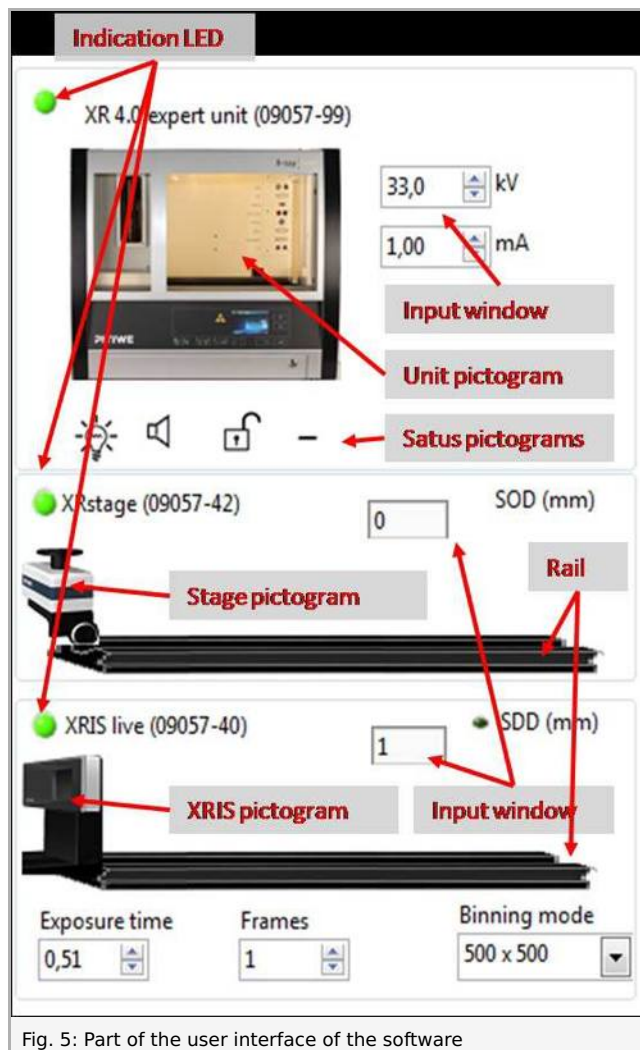

Fig. 5: Part of the user interface of the software
- Start the “measureCT” program. A virtual X-ray unit, rotation stage and Detector will be displayed on the screen. The green indication LED on the left of each component indicates that its presence has been detected (Fig. 5).
- You can change the High Voltage and current of the X-ray tube in the corresponding input windows or manually on the unit. (Fig. 5).
- When clicking on the unit pictogram additional information concerning the unit can be retrieved (Fig. 5).
- The status pictogram indicate the status of the unit and can also be used to control the unit such as switching on and off the light or the X-rays (Fig. 5).
- The position of the XRIS and XRstage can be adjusted to its real position either by moving the XRIS pictogram or by filling in the correct value in the input window (Fig. 5).